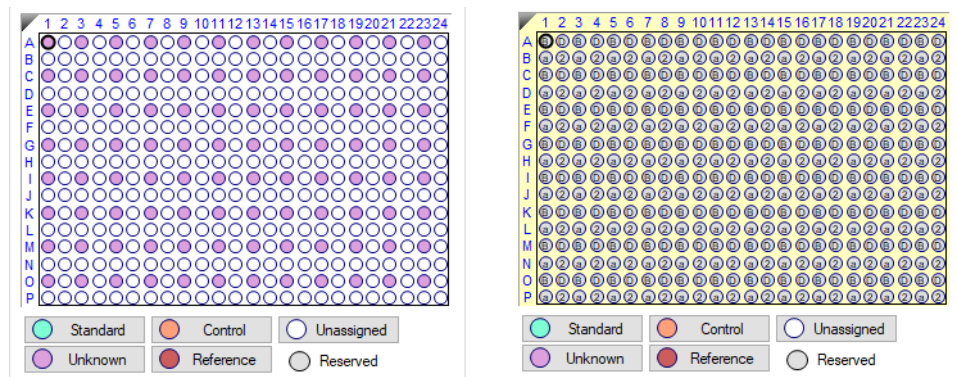
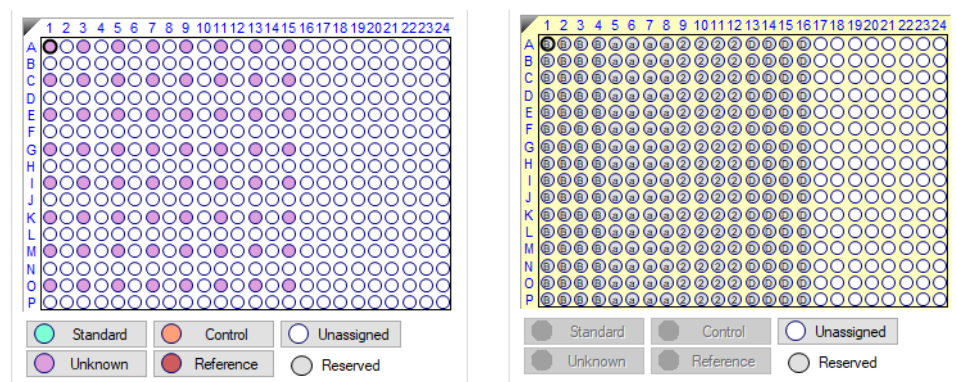

Figure 2-3: 96-channel mode using 384-well plates for the Octet HTX instrument. Left: sample plate. Right: reagent plate.
Figure 2-4: 16-channel mode using 384-well plates for Octet 384 and HTX instruments. Left: sample plate. Right: reagent plate.
- f. Pipette **Glycan Detection Mix** into the next column of wells. Use 200 μL for 96-well plates or 80 μL for 384-well plates. Examples of 384-well sample and reagent plate layouts are shown in Figure 2-3 and Figure 2-4.